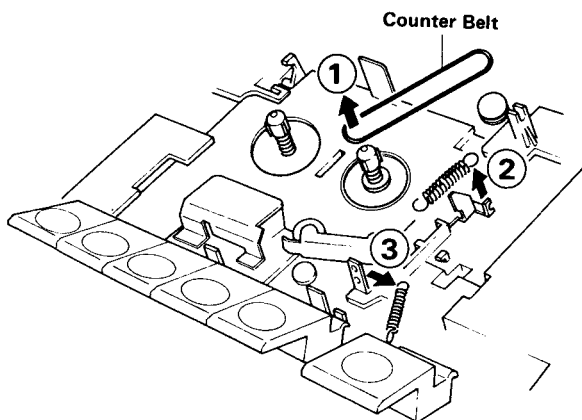

Fig. 9
- 2) Remove counter belt and 2 springs. (Refer to Fig. 9)